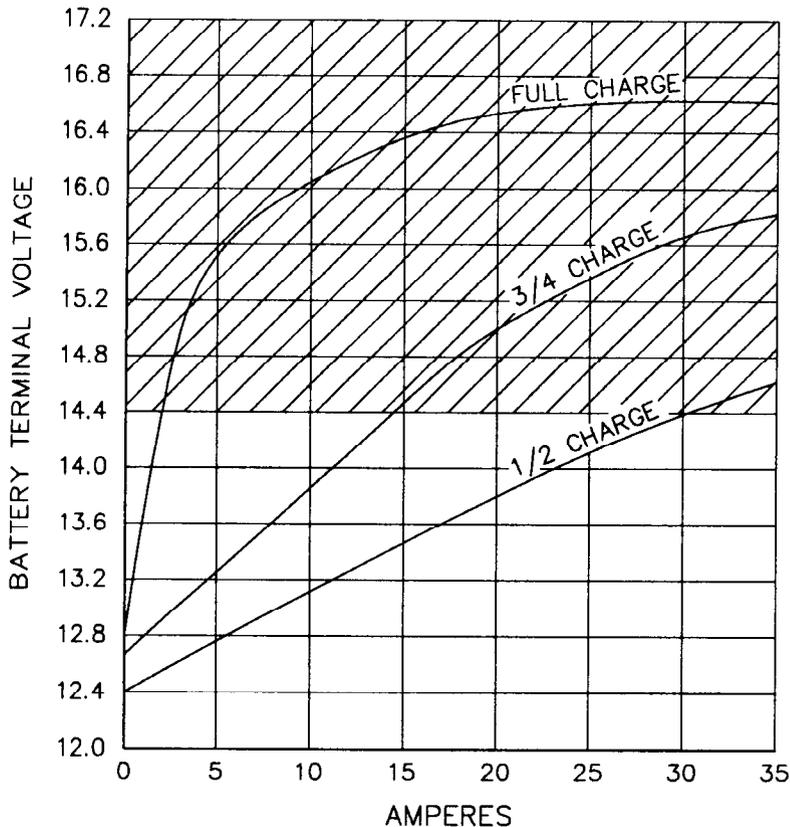

Figure 3-1. Regulator Operating Range.
- b. **Regulator Operating Range.** A regulator does not control the charging process significantly until battery charge level is approximately 50%. Prior to that a battery will absorb a large charge current and represents the working area of the battery. When the voltage of the battery rises to this threshold, the regulator starts limiting the voltage level. The charge current levels off as the voltage level rises, and this is called the regulation zone. Figure 3-1 illustrates this characteristic.